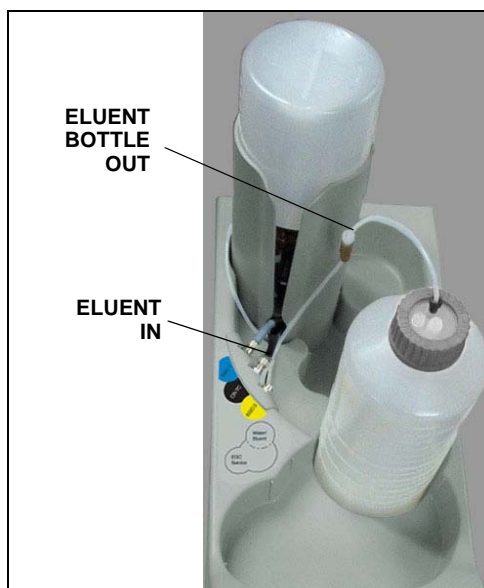

Figure 3-8. Reservoir Connections
If it is not already connected, connect the **ELUENT BOTTLE OUT** line from the reservoir cap to the **ELUENT IN** line, which extends from the plumbing and cable chase on the top of the Dionex ICS-2100 (see Figure 3-8).
1. Make sure the eluent reservoir is filled and the tubing connecting the reservoir to the Dionex ICS-2100 tubing is securely connected (see Figure 3-8).